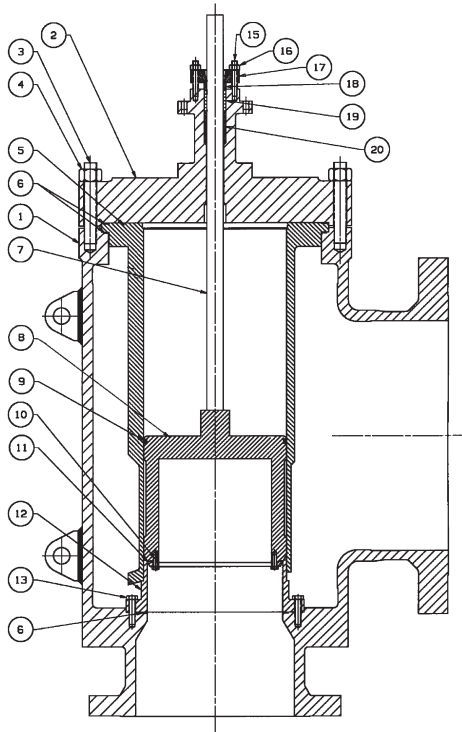

Figure 1 - Hung Cage Construction
- Styles: Angle (Figures 1, 2, and 3)